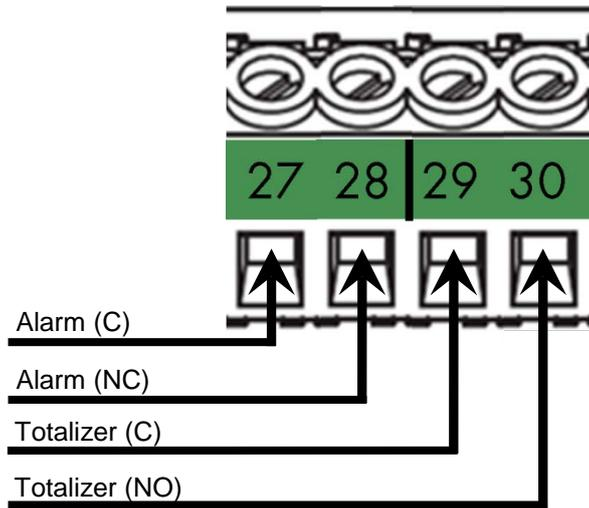

Figure 10: Connections for contact output
4. Install each wire into the terminal block (Figure 10)